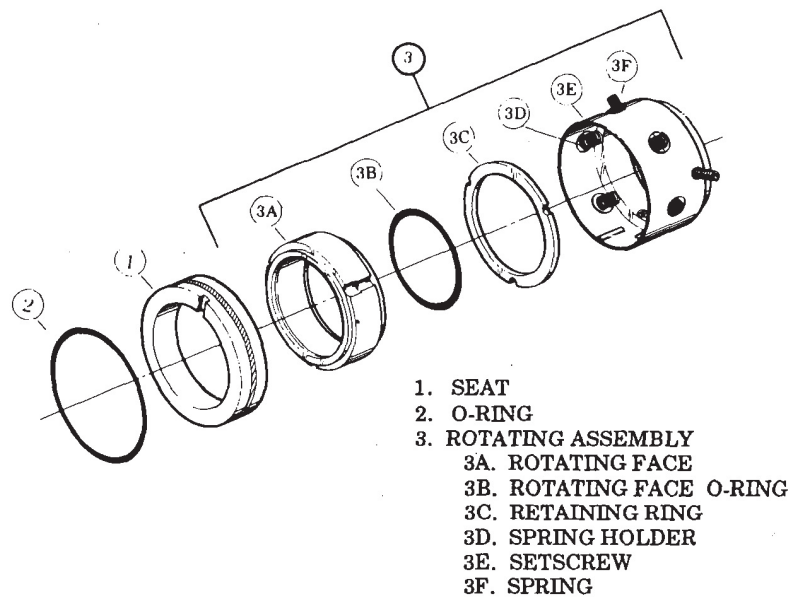
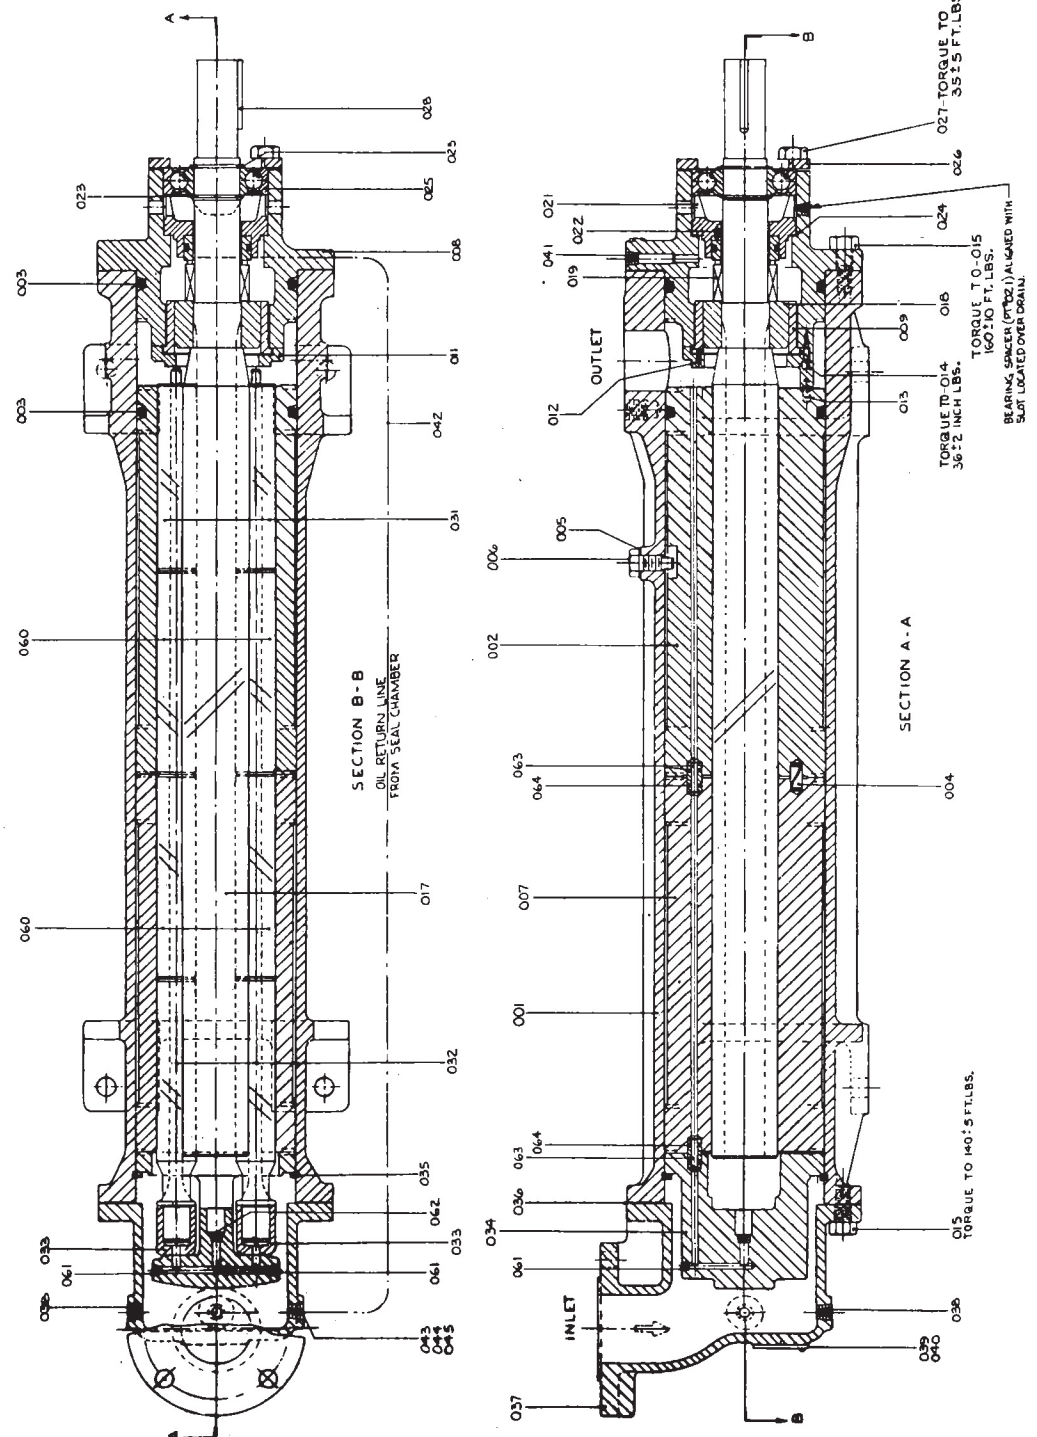

FIGURE 1. Borg Warner Type Q Mechanical Seal
FIGURE 4
- STEP 9. Remove bolts (027) and bearing retainer (026) from inboard cover (008).
- STEP 10. Remove assembled power rotor (017). Removal of power rotor (017) includes removal of truarc rings (023), ball bearing (025), spacer (021), spring pin (022), and mechanical seal (019). NOTE: Piston (018) furnished as part of power rotor (017) sub-assembly and is not serviced separately.
- STEP 11. Disassemble power rotor (017) as follows:
- a. Remove outer truarc ring (023) from groove of power rotor. Press ball bearing (025) from power rotor (017). Remove inner truarc ring (023) from groove of power rotor.
- b. Remove spacer (021) from power rotor. NOTE: Removal of spacer (021) will also remove mechanical seal seat and O-ring (1 and 2, Figure 1) and spring pin (022). Remove mechanical seal seat (1, Figure 1) from spacer (021). Remove O-ring (2, Figure 1) from mechanical seal seat.
- c. Remove mechanical seal (019) rotating assembly (3, Figure 1) from power rotor (017) shaft by loosening setscrews (3E, Figure 1) and sliding rotating assembly off power rotor.
- STEP 19. *(Figure 4 Only)* Remove vent pin (004) and tube (063) with O-rings (064) from housing (002 or 007). Remove O-rings (064) from tube (063).
NOTE: Prior to assembly of pump, all parts should be cleaned and inspected for nicks and burrs. Replace all worn or damaged parts. The IMO Pump Division recommends automatic replacement of O-rings (003 and 064), gasket (024 and 036), Dyna Seal (005), mechanical seal (019) and ball bearing (025) when these parts are disturbed from their previously installed position. Refer to pump assembly drawings, Figures 2 through 4; mechanical seal drawing, Figure 1; and List of Material, Table 2, during assembly. Coat all parts with light lubricating oil to assist in assembly. Assembly procedures for Figures 2 through 4 are identical except when specifically noted.
- STEP 1. Install O-ring (003) in groove of housing (002). Install housing (002) in pump case (001) properly aligning housing with bore in case (001) for stop pin (006). Install stop pin (006) with Dyna Seal (005) in case (001).
- STEP 3. *(Figure 4)* Install O-rings (064) on oil balance tubes (063). Install oil balance tubes (063) and vent pin (004) in bores of inlet housing (007).
- STEP 4. Install assembled inlet housing (007), ensuring that vent pins (004) and/or tubes (063) engage bores of housing (002).
- STEP 5. Install balance piston bushing (009) on cover (008). Install spring pins (012 and 013) in stop (011). Install stop (011) on cover (008), ensuring that spring pin (012) engages bore in balance piston
STEP 6. Install O-ring (003) in groove of cover (008). Install assembled cover (008) on pump case (001) using bolts (015). Torque bolts (015) to 160 lbs. ft. (± 10 lbs. ft.).
STEP 7. Assemble power rotor (017) as follows:
- a. Slide rotating assembly (3, Figure 1) of mechanical seal (019) on power rotor next to piston (018). Tighten setscrews.
- b. Install O-ring (2, Figure 1) on mechanical seal seat (1, Figure 1). Install seat and O-ring (1 and 2, Figure 1) in spacer (021) ensuring that spring pin (022) is positioned to engage slot in seal seat (1, Figure 1).
- c. Install assembled spacer (021) on power rotor (017).
- d. Install inner truarc rings (023) in groove of power rotor (017).
- e. Press ball bearing (025) on power rotor (017), pressing only on inner race of bearing.
- f. Install outer truarc ring (023) in groove of power rotor (017) to retain bearing.
- g. Install gasket (024) in bore of end cover (008).
STEP 8. Install assembled power rotor (017) in pump, centering each part as it enters cover (008).
STEP 9. Install bearing retainer (026) on inboard cover (008) using bolts (027). Torque bolts (027) to 35 lbs. ft. (± 5 lbs. ft.).
STEP 10. Install idlers (031, Figures 2 and 3) or (031 and 060, Figure 4) in bores of housings (002 and 007) by engaging threads of idlers (031 and/or 060) with threads of power rotor (017) and rotating power rotor (017) in a clockwise direction.
STEP 11. Install idlers (032 or 046) in housing (007) bores as indicated above.
(1) Minor Repair Kit items.
(2) Major Repair Kit items. Items marked (1) also included in Major Repair Kit.
(3) Quantity is three (3) for Figure 2; two (2) for Figure 3; and one (1) for Figure 4.